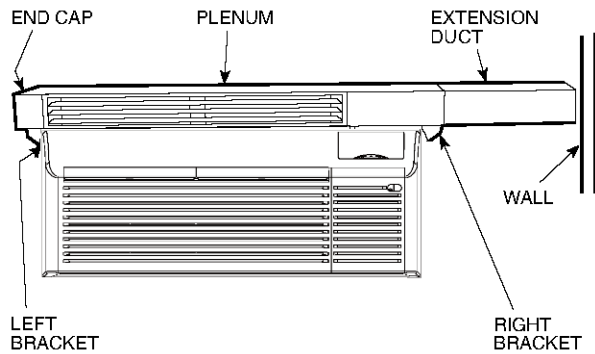

Fig. 12 — Completed Plenum & Extension Assembly
2. Line holes up with extension duct on one side and the support bracket on other side. Secure with 4 screws provided. See Fig. 12 for completed plenum assembly.